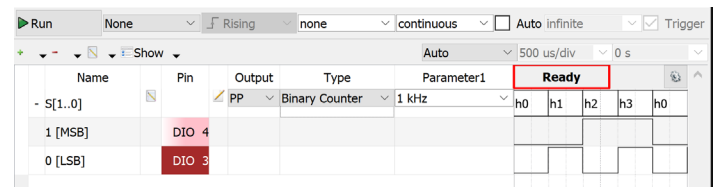

Figure 12: Binary Counter Bus
**Bus Types (Constant, Number, Binary Counter, Custom):** Use PP (push/pull) as the output setting. The most common bus types that will be used in 3701 are Constant, Number, Binary Counter, and Custom. You can click on properties to see more ways to configure each type. When you start changing the types notice how the number you are outputting is displayed above the signal lines in hex, see Figure 12. You can change the number display by changing the format in parameters. To remove a bus, select the bus and press the red -.